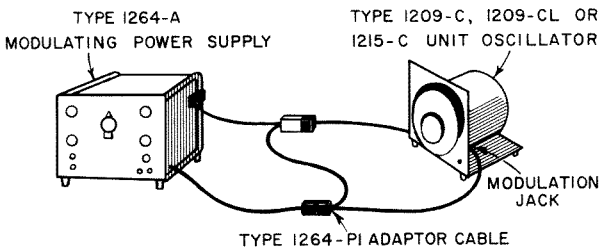

Figure 3. Connection of Type 1264-A to Unit Oscillator by Means of Type 1264-P1 Adaptor Cable.
**2.4.2 CONNECTIONS TO TYPES 1209-C, 1209-CL, and 1215-C UNIT OSCILLATORS.** The Type 1264-A Modulating Power Supply can be connected to the Type 1209-C, 1209-CL, or 1215-C Oscillators by means of the Type 1264-P1 Adaptor Cable as shown in Figure 3. The four-terminal connector on the adaptor cable is plugged into the mating receptacle on the Type 1264-A, while the four-terminal connector on the cable from the oscillator is plugged into the mating receptacle on the adaptor cable. The eight-terminal connector on the adaptor cable is mated with the matching plug on the cable from the Type 1264-A. The telephone plug on the adaptor cable is plugged into the oscillator modulation jack.